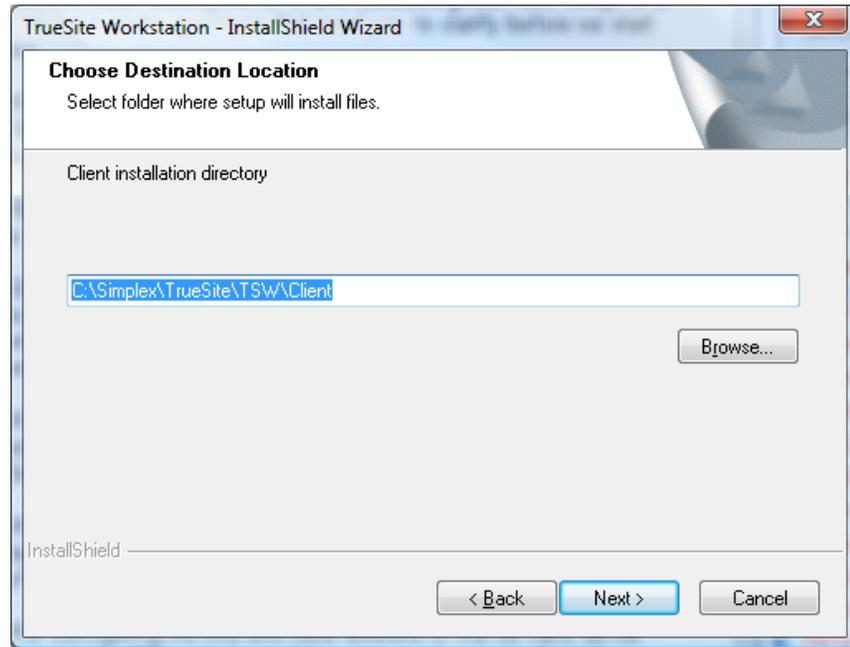

Figure 3-15 Client Installation Directory Dialog Box
- f. The Client installation directory dialog box appears (see Figure 3-15). It indicates the location the files associated with TSW Remote Client will be sent to. The default location is C:\Simplex\TrueSite\TSW\Client, but it can be changed. Click **Next** to continue.